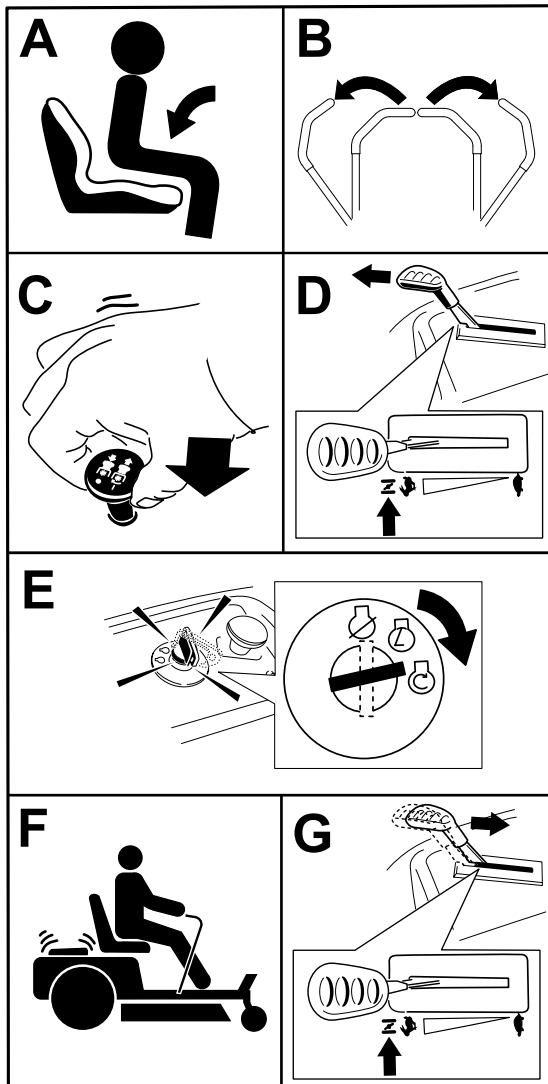

Figure 17
**Note:** It may be necessary to hold the lever against the stop, in the choke position, while trying to start the engine (Figure 17).
1. Disengage the blades by moving the blade-control switch to the OFF position (Figure 17).